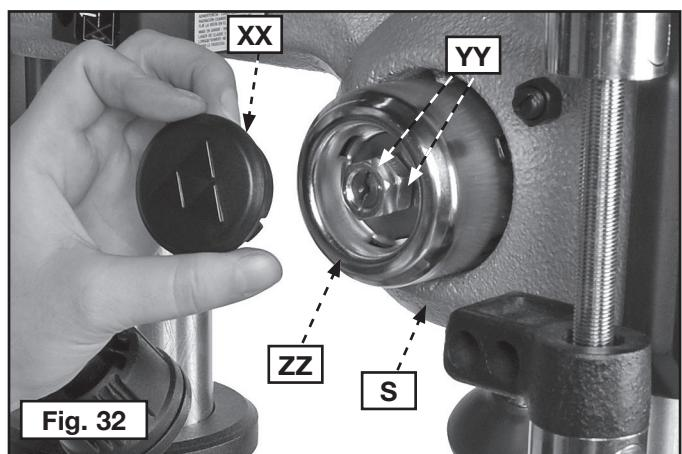
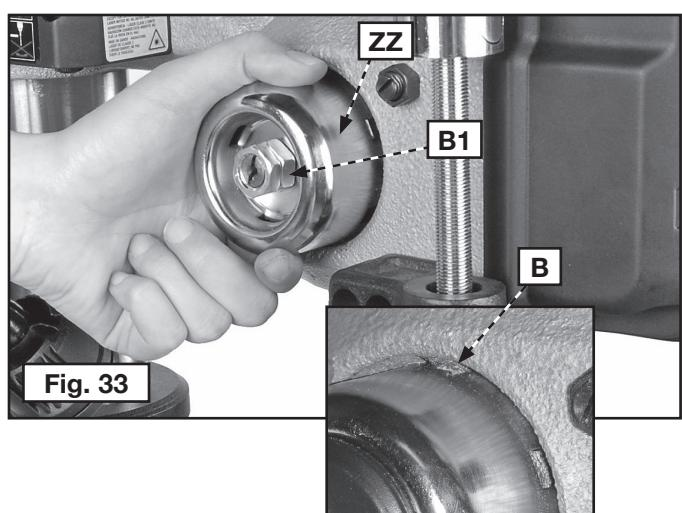

Fig. 32
Fig. 33
1. Remove plastic cap (XX) Fig. 32.
2. Loosen nuts (YY) but do not remove. Make sure that the spring housing (ZZ) remains engaged with head casting (S).
3. While firmly holding the spring housing (Fig. 33), pull out the housing and rotate it (counter-clockwise to increase or clockwise to decrease) until you feel the boss (B) engaged with the next notch on the housing. Tighten the two nuts (YY) Fig. 32 to hold the housing in place.
IMPORTANT: The inside nut (B1) Fig. 33 should not contact the spring housing (ZZ) Fig. 33.